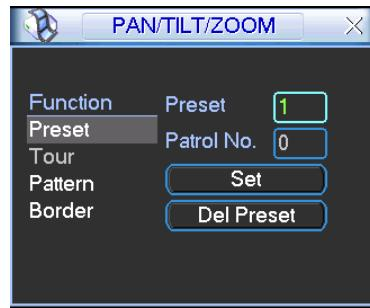

Figure 4-39
In Figure 4-36, please click the “set” button. The interface is shown as below. See Figure 4-39. Here you can set the following items:
- The following setups are usually operated in the Figure 4-36, Figure 4-39 and Figure 4-40.
In Figure 4-39, click preset button and input preset number. The interface is shown as in Figure 4-41.
In Figure 4-39, input patrol (tour) number in the No. blank and click patrol button
In Figure 4-39, click pattern button and then click "begin" button. The interface is shown as in Figure 4-43. Then you can go to Figure 4-36 X to modify zoom, focus, and iris.
In Figure 4-39, input mode value in the No. blank, and click pattern button.